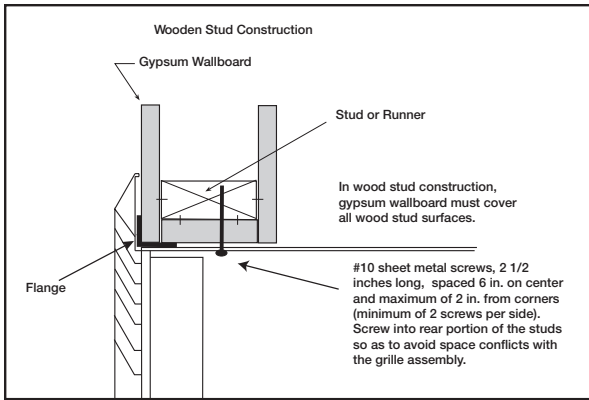
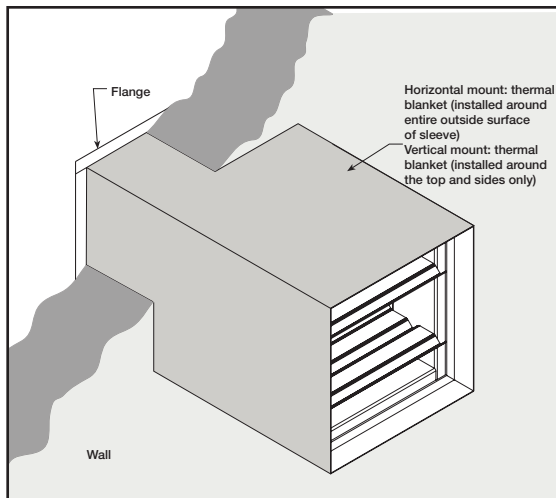

Figure 3 - Wood Stud
Figure 8: Sleeved Damper with Thermal Blanket (duct termination)
- Prepare opening between studs and sleeve assembly as shown below (see Figure 3 & 4).
Flange on front (grille end) of sleeve must be a minimum of 16 ga. (1.5 mm) steel and have $\frac{3}{4}$ in. (19 mm) minimum flange leg (refer to **Figure 8**). Using #10 (19 mm) sheet metal screws, screw from inside of sleeve through the rear portion of the studs (as shown in **Figure 3 & 4**). Space screws a maximum of 6 in. (152 mm) on center and a maximum of 2 in. (51 mm) from the corners (minimum of 2 screws per side). No retaining angles are required on the side of the wall opposite from the grille.